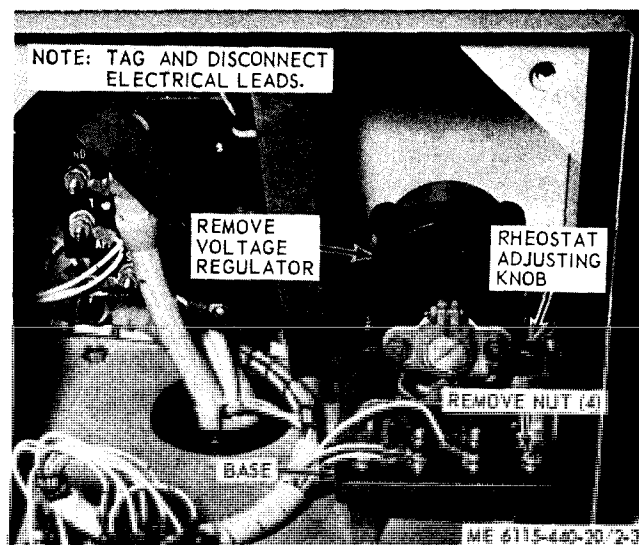

Figure 2-3. Voltage regulator, removal and installation.
a. Removal. Refer to figure 2-3 and remove the voltage regulator.
b. Installation. Refer to figure 2-3 and install the voltage regulator.
c. Adjustment. Turn the voltage regulator rheostat adjusting knob (fig. 2-3) with a screwdriver until the output voltage indicated on the voltmeter is correct (normal reading is 28 volts).